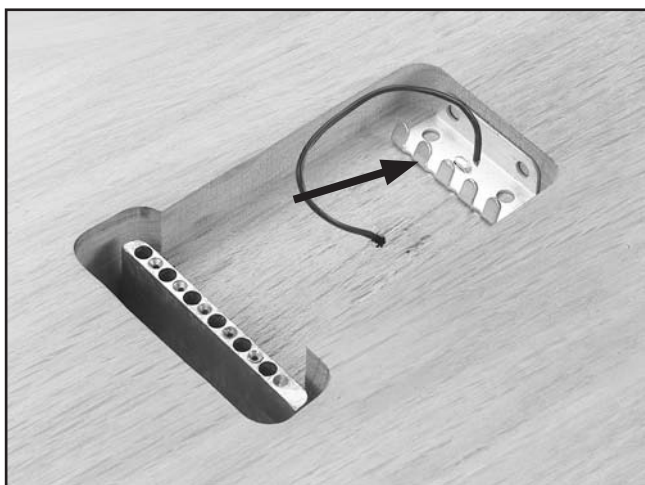

Figure 23. Spring hanger placement.
8. Flip the guitar body over and place the spring hanger in the cavity, as shown in **Figure 23**.